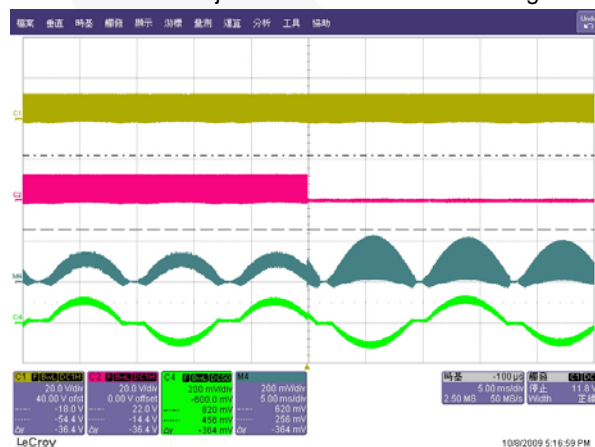
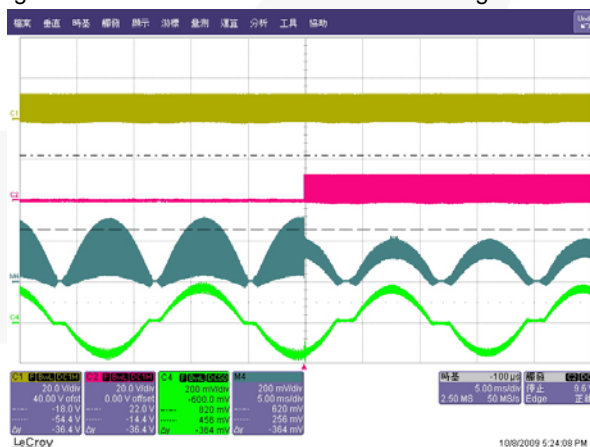

Figure 25. Phase-Shedding and Line Current
Figure 26. Phase-Adding and Line Current
11. Figure 25 and Figure 26 show the sum of two-inductor current and line current for phase shedding and adding, respectively. As shown, the phase management causes no visible change in the line current waveforms.